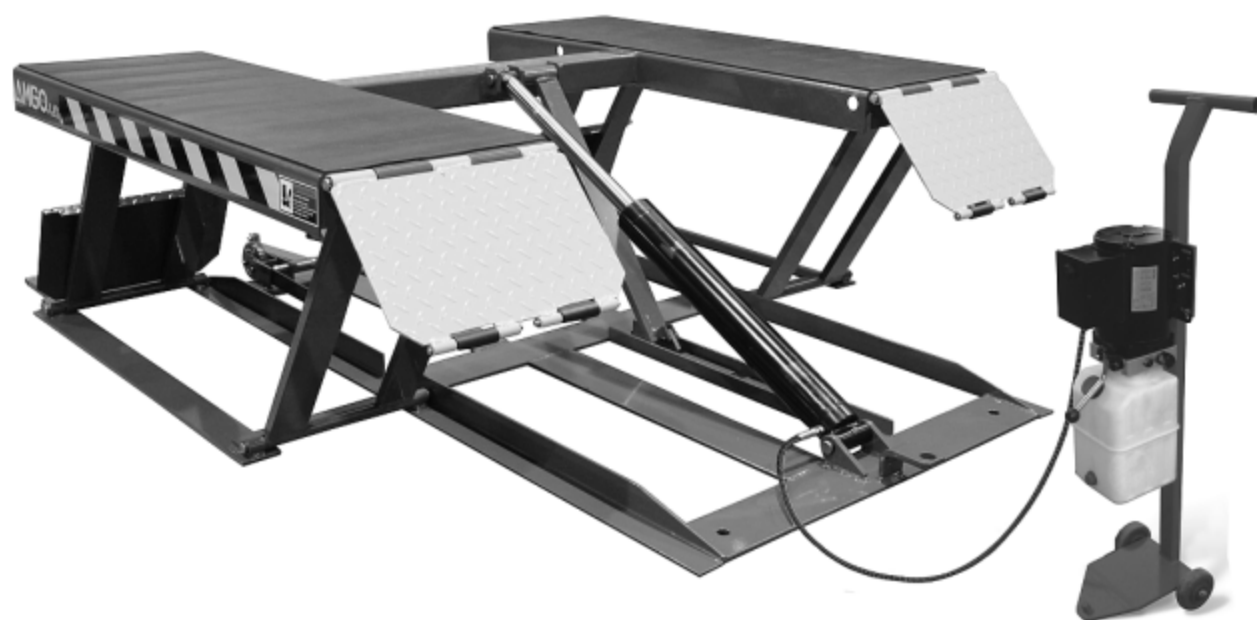

Fig.1
I. PRODUCT FEATURES AND SPECIFICATIONS (See Fig.1)